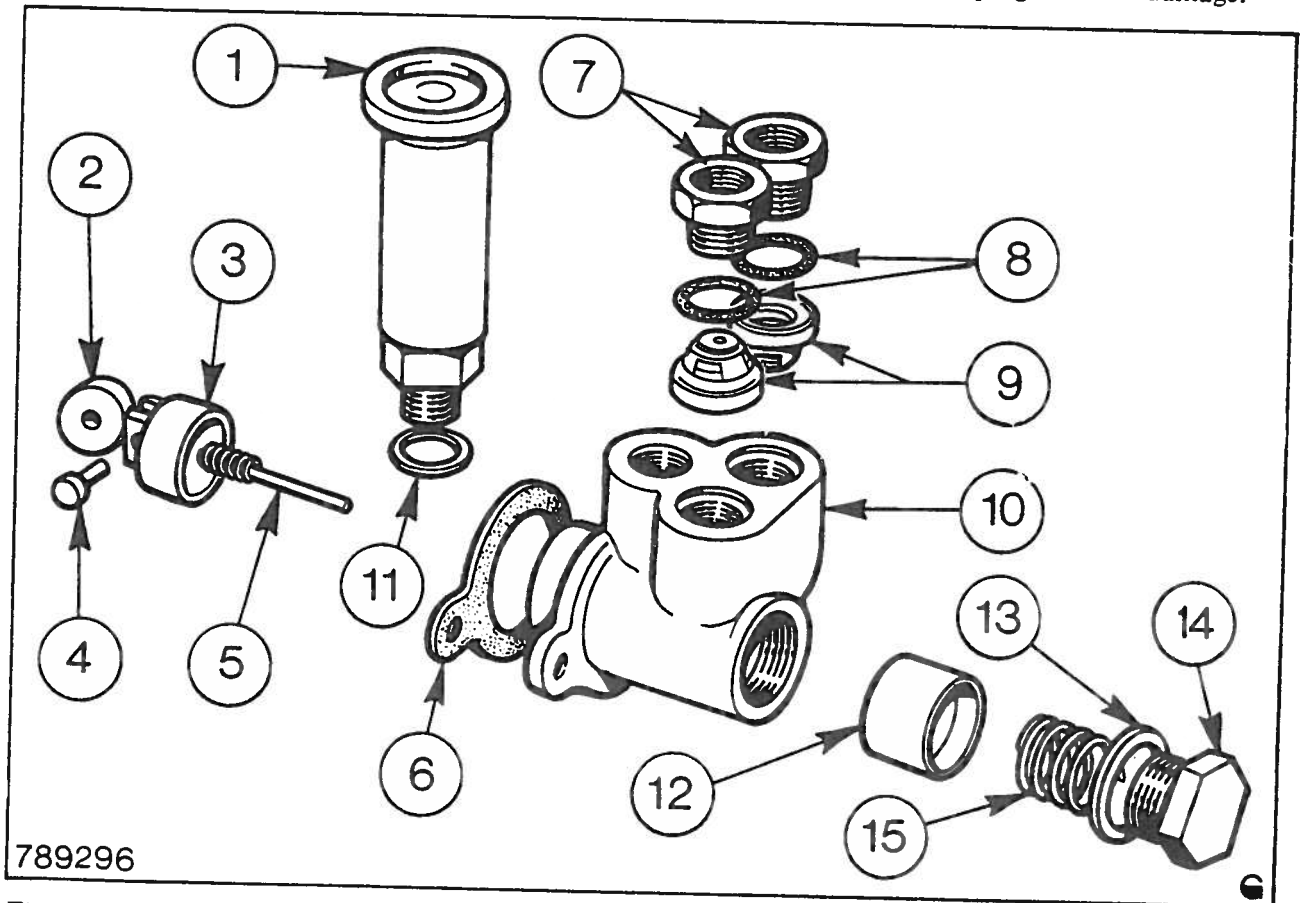

Fig. 73 Bosch Fuel Lift Pump
1. Using a socket wrench unscrew the union nuts. Check that the valves seat correctly and that the valve springs are in order, Fig. 73.